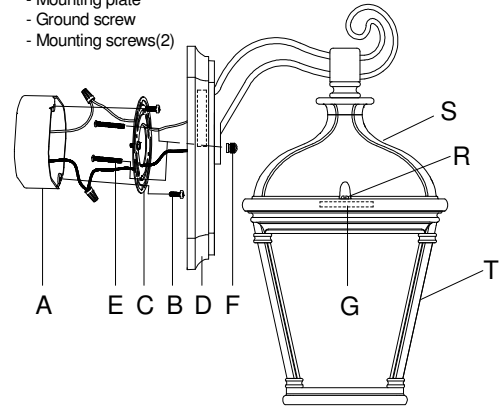

Fig. 2
CONNECTING THE WIRES (Fig. 2)
5. Connect the electrical wires as shown in Fig.2 making sure that all wire connectors are secured. If your outlet box has a ground wire (green or bare copper), connect the fixture's ground wire to it. Otherwise, connect the fixture's ground wire directly to the circular strap using the green screw provided.